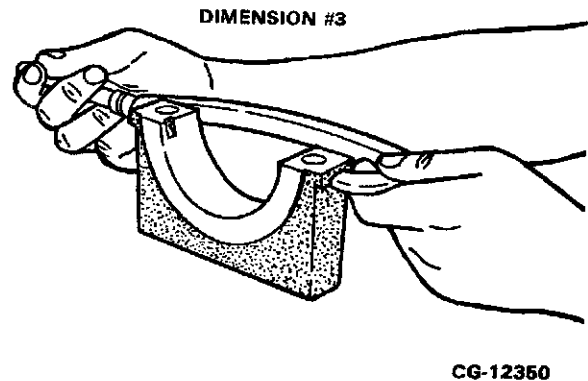

Figure 7.72. Measure Dimension No. 3 (Bearing Cap Width)
- b. Using a 7 in. micrometer, measure the width of the service cap as shown in Figure 7.72.